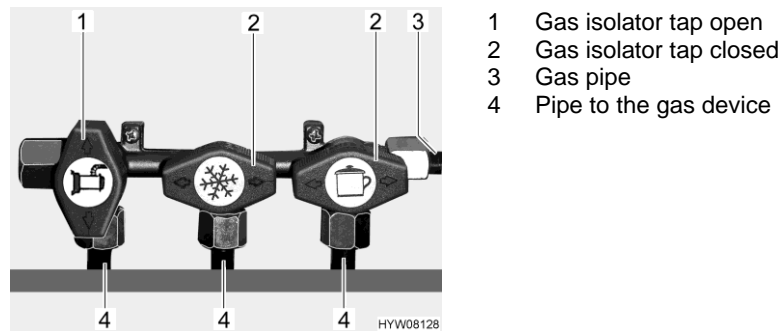

Fig. 132 Gas isolator taps position (example)
- Position the gas isolator tap of the corresponding gas device parallel (Fig. 132,1) to the pipe (Fig. 132,4) leading to the gas device.
- Position the gas isolator tap of the corresponding gas device transverse (Fig. 132,2) to the pipe (Fig. 132,4) leading to the gas device.